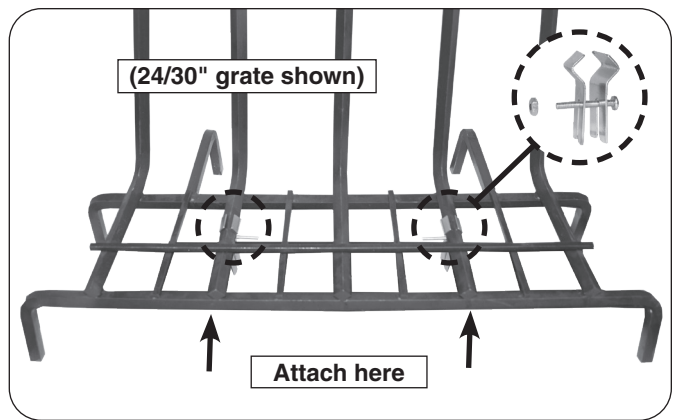
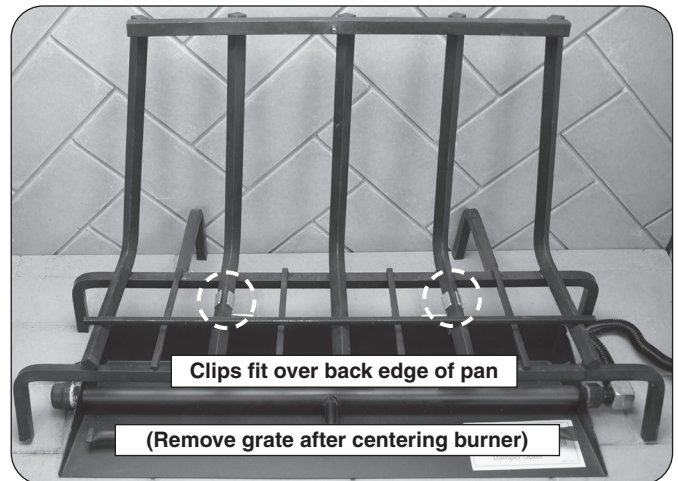
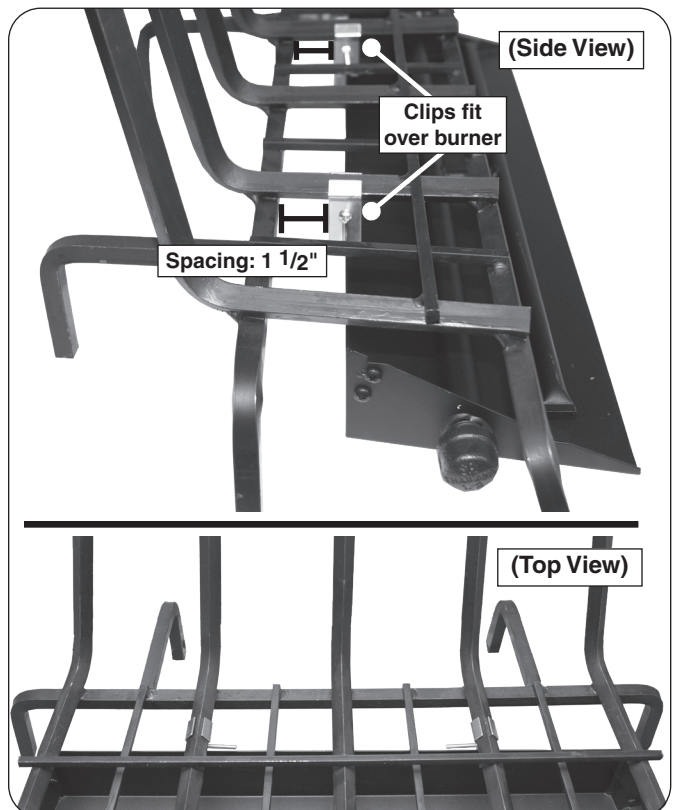

Fig. 10-1 Attach stabilizer clips to grate
Fig. 10-2 Position grate
Fig. 10-3 Grate placement detail
1. Locate the grate (outside of the fireplace), and attach the stabilizer clips to the 2 inner bars of the grate using the provided screws and nuts (see Fig. 10-1 and Fig. 10-3).
The stabilizer clips should be positioned on the inner bars and oriented as shown. **Note the 1 1/2" spacing in Fig. 10-3.** Tighten the clips in place.
See Fig. 10-2 and Fig. 10-3.